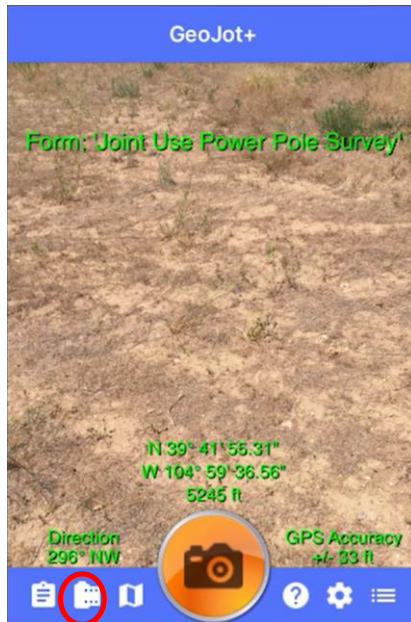

Figure 9
9. From the Home screen, tap the **Forms** icon (Figure 9)